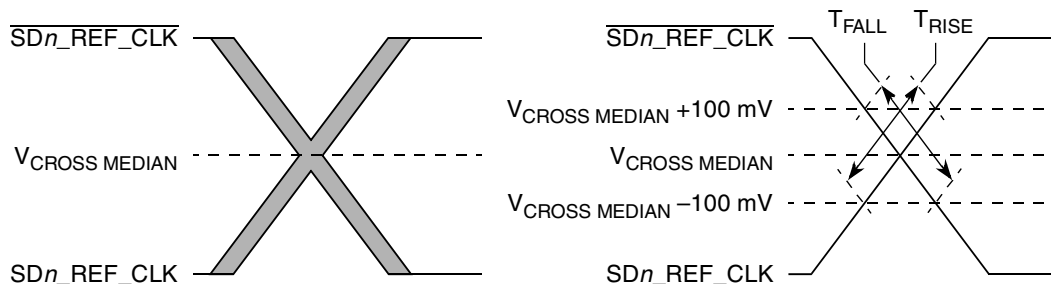

Figure 58. Single-Ended Measurement Points for Rise and Fall Time Matching
4. Matching applies to rising edge rate for SDn_REF_CLK and falling edge rate for SDn_REF_CLK . It is measured using a 200 mV window centered on the median cross point where SDn_REF_CLK rising meets SDn_REF_CLK falling. The median cross point is used to calculate the voltage thresholds the oscilloscope is to use for the edge rate calculations. The Rise Edge Rate of SDn_REF_CLK should be compared to the Fall Edge Rate of SDn_REF_CLK , the maximum allowed difference should not exceed 20% of the slowest edge rate. See Figure 58.